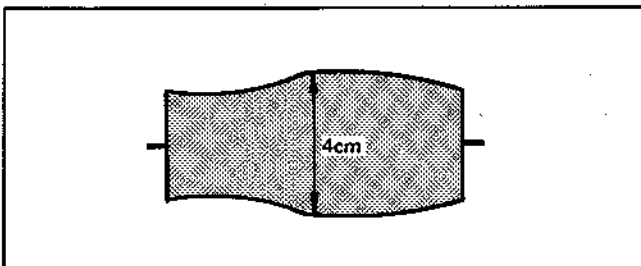

Fig. 4-5
- 8) Adjust the tracking control knob so that the center of the RF output waveform is 4cm on the oscilloscope. (Fig. 4-5) Check the turning direction of the knob as explained below.